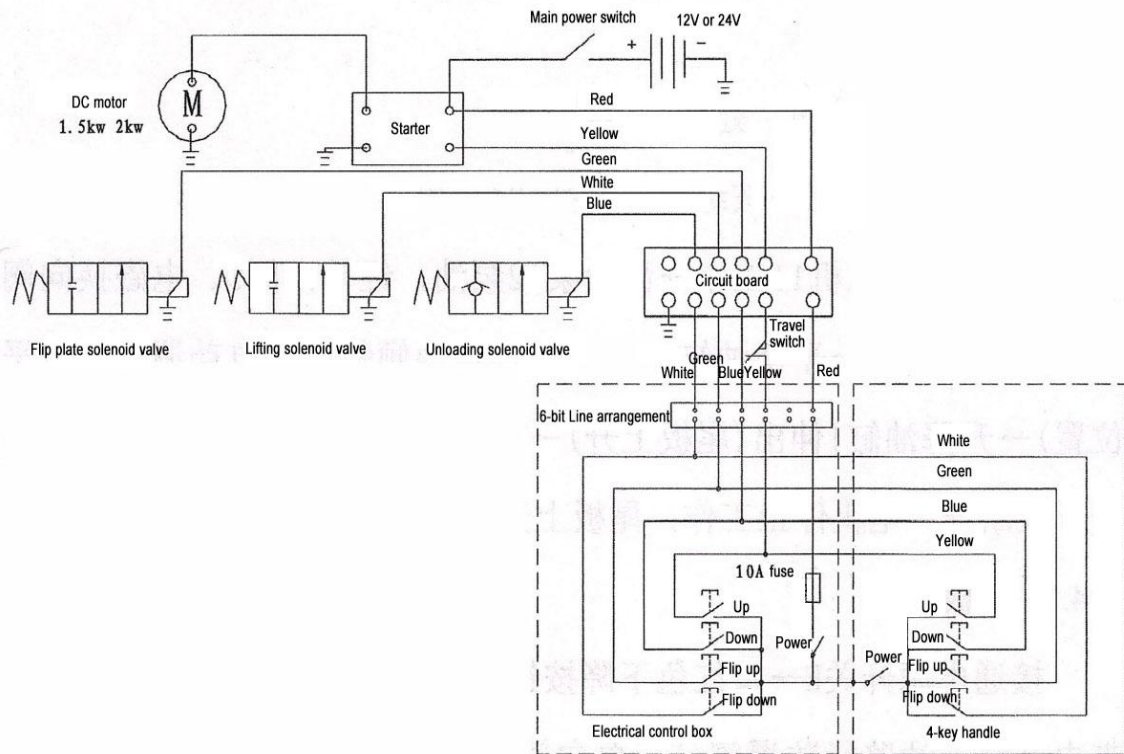

Figure 2-2 Electrical schematic diagram
2.2 Electrical Schematic Diagram(see Figure2-2)